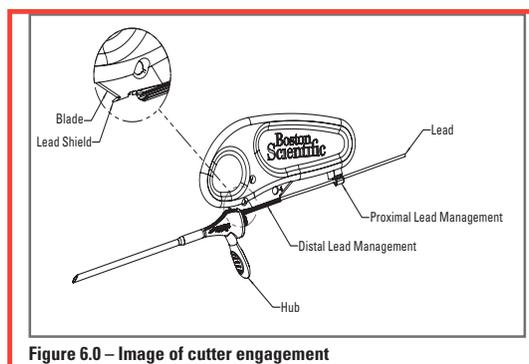

Figure 6.0 – Image of cutter engagement
The **ACUITY Universal Cutter** (Figure 6.0) is a tool used to cut-away guide catheters following implantation of left ventricle (LV) leads in the coronary venous vasculature.
1. Attach the cutter to the proximal lead body by snapping it into the distal lead management groove. Attach the lead to the proximal lead management hook of the cutter by rolling the lead into the hook. (See Figure 6.0 for cutter attachment)